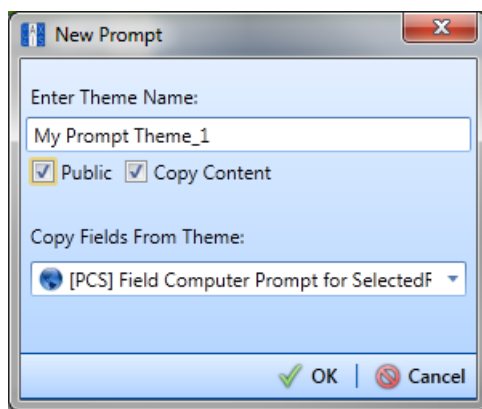

Figure 13-29. New Prompt
- 4 Click the  **Add** button to open the *New Prompt* dialog box (Figure 13-29).